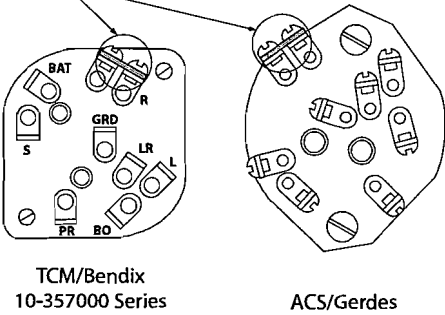

Figure 3
- 7. Verify that the right magneto is grounded when the start switch is in the start position. Most start switches automatically ground the right magneto P-lead while starting. If the right magneto is not grounded with the start switch in the start position, verify that the jumper shown in Figure 3 is installed. If your aircraft is not equipped with this type of switch, it may be necessary to replace the existing switch(s) with a TCM or equivalent combination ignition and starter switch in order to ground the right magneto during start.
4. For installations where the non-boosted magneto is not impulse-coupled and, therefore, not used for engine starting, verify that the non-boosted magneto is grounded when the start switch is in the start position. Most start switches automatically ground the non-boosted magneto P-lead while starting. If the non-boosted magneto is not grounded with the start switch in the start position, verify that the jumper shown in Figure 3 is installed. If your aircraft is not equipped with this type of switch, it may be necessary to replace the existing switch(s) with a TCM or equivalent combination ignition and starter switch in order to ground the non-boosted magneto during start.